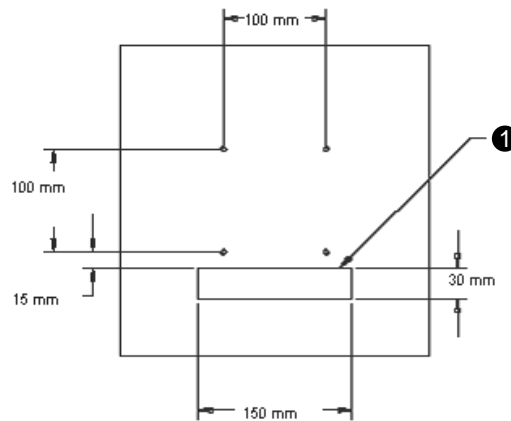

Figure 2-2: Rear mount template (not to scale)
- 3 Mount the monitor to the wall according to the template shown in *Figure 2-2*. Route the cables through the cable access opening (*Figure 2-2*, item ❶).